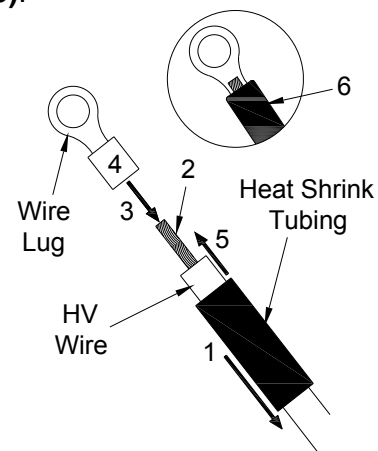

Figure 9
2. Slide the heat shrink tubing (1) over the HV wire (Figure 9).